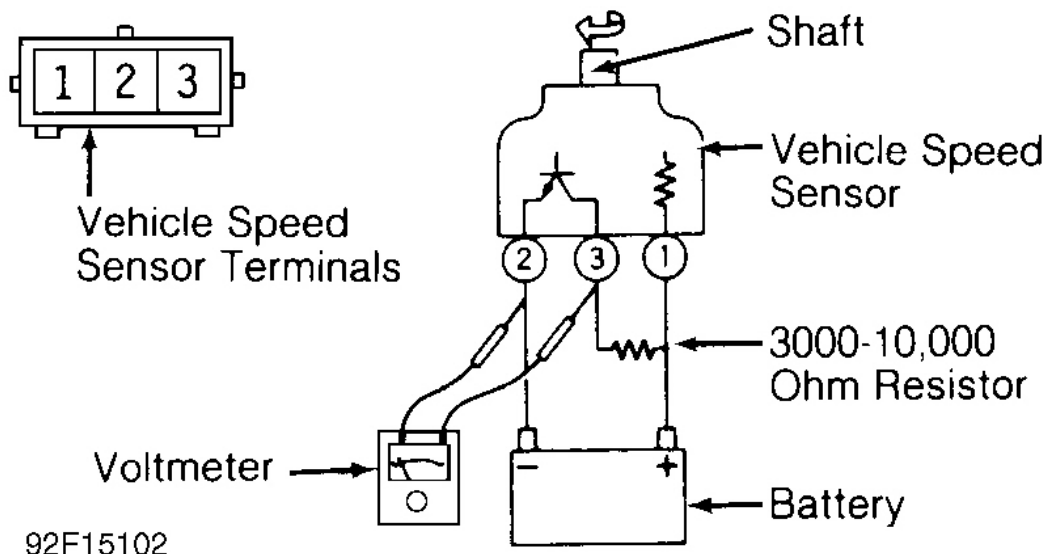

Fig. 24: VSS (Stealth & 3000 GT W/Electronic Speedometer)
1. Remove vehicle speed sensor from rear of instrument cluster. Connect a 3000-10,000 ohm resistor and 12-volt battery to vehicle speed sensor. See **Fig. 24**.
2. Using voltmeter, check for voltage reading at terminals No. 2 and 3 while rotating the shaft. See **Fig. 24**. In one shaft revolution, there should be 4 voltage readings. Replace vehicle speed sensor if defective.